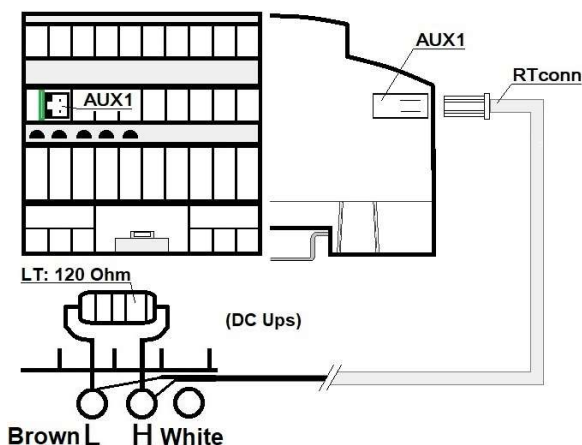

Fig. 4 –Connection RTConn cable
To ADELBUS connection, please connect the cable RTConn on AUX1 as explained in Fig.4 and connect the other side of the cable to the CAN terminals L (Brown) and H (White) of the DC UPS, with a line termination (LT) resistor 120 Ohm, present inside the cable kit.